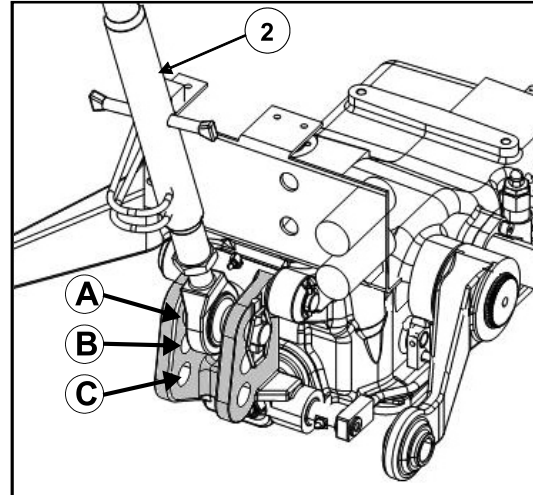

Fig. 4.31
4.48 Top Link Of The Mechanical Power Lift (2) (Fig.4-31).